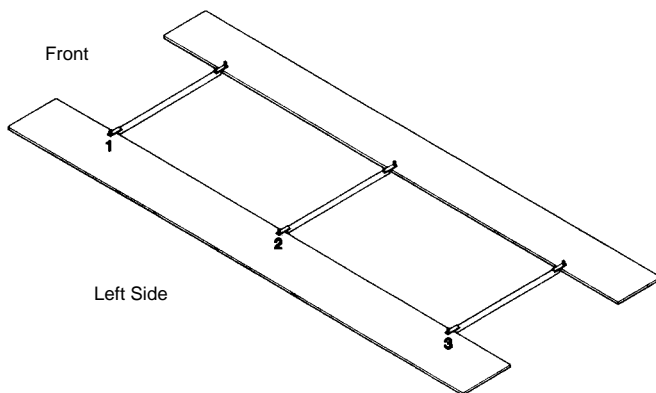

Figure 18
3. Place three ladder support bars on pulling system rack. The No. 1 bar should be placed at front of rack with decal on left side of vehicle. (See Figure 18.)